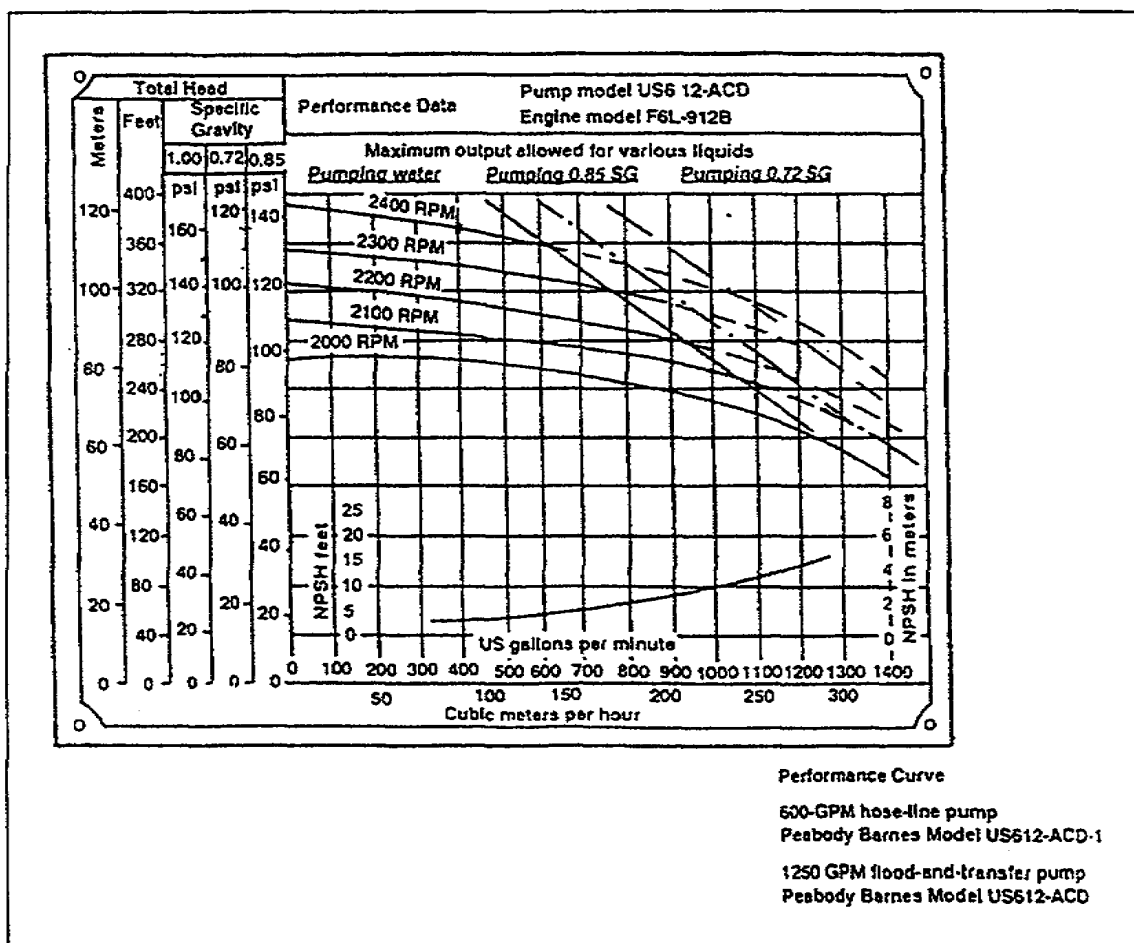

Figure 1. Pump performance: 6-inch, single-stage, 600- and 1,250-GPM self-priming pump
b. See Figure 1. It is a uniform scale; that is, there is an equal space between all units on the graph in both directions. Rate of flow is plotted along the horizontal axis, increasing from left to right in GPM (cubic meters per hour) on the bottom. The remaining variables are plotted along vertical axis, increasing from bottom to top. Each of the RPM curves represents the other variables at a specific engine operating speed. Engine speed is shown in 100 RPM increments from 2,000 RPM to 2,400 RPM (maximum governed speed). Along the left side of the scale, discharge pressures are shown in PSI and FTH for 1.00, 0.72, and 0.85 specific gravity liquids.
a. Figure 1. Shows the Pump performance for a 6-inch, single-stage, 600-and 1,250-GPM self-priming pump. The 600-GPM pump is designed to pump petroleum or potable water at a maximum operational output of 600-GPM at 150 PSI. The 1,250-GPM pump is designed to pump petroleum or potable water at a maximum operational output of 1,250-GPM at 180 FTH or 66.2 PSI. The difference between the two pumps is the 600-GPM pump is designed for use with the tactical hoseline; it operates at higher pressure but lower volume. The 1,250-GPM pump is a flood and transfer pump designed to provide high volume with low pressure to your 800-GPM mainline pump (IPDS). Using the pump graph in Figure 1. Given a 6-inch, single-stage, 600-GPM self-priming pump with a head capacity of 2,100 RPM; 35°F API gravity; and a operating pressure of 103 PSI, determine all other factors. See Figure 1. to determine the rate of flow and feet of head.
(1) First determine type of fuel. Use the following formula: Note both SG and API is at 60°F.